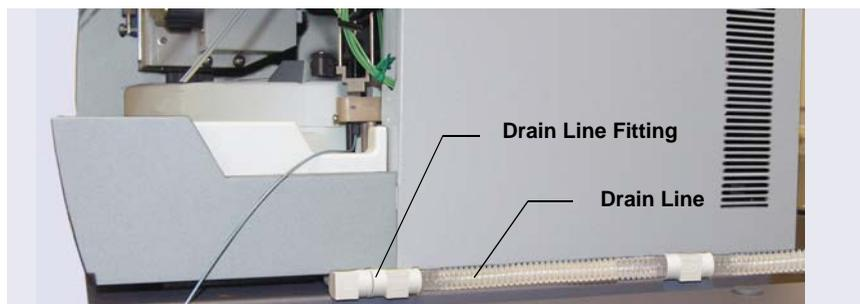

Figure B-33. Drain Line Connection for a Dionex AS-AP Without Sample Temperature Control
Figure B-33 shows the completed drain line connections for a Dionex AS-AP without sample temperature control.
2. Locate the rubber drain line fitting that extends from the right side of the autosampler (see Figure B-33).